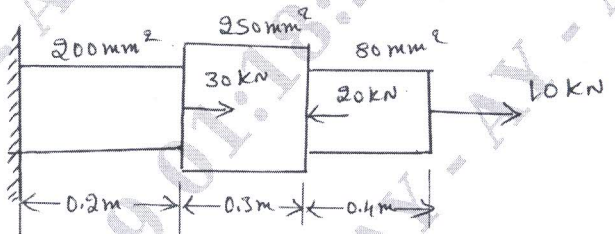

Fig. Q2 (b)
- b. A stepped bar is subjected to the forces as shown in Fig. Q2 (b). Determine the stress induced in different portions and net deformation in the stepped bar. Take $E = 2 \times 10^5 \text{ N/mm}^2$. (08 Marks)